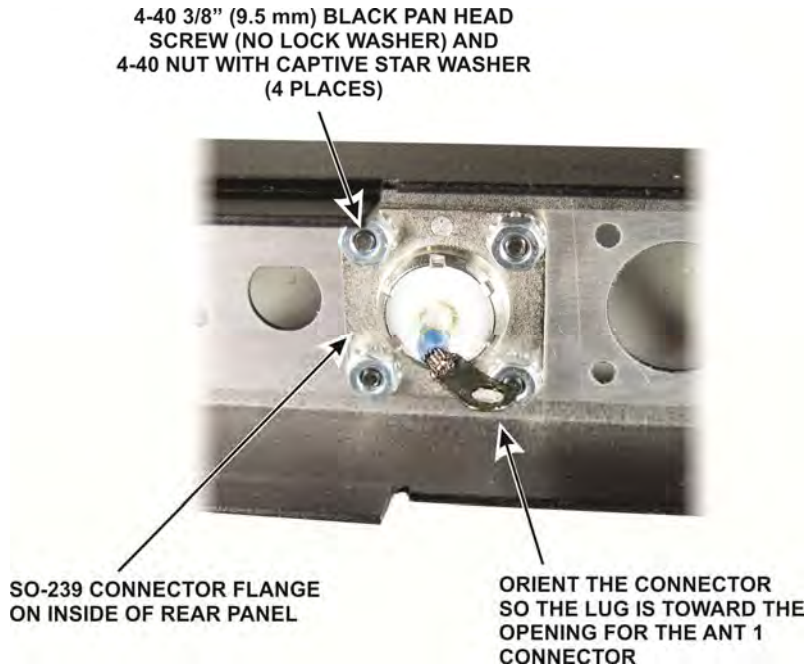

Figure 20. Installing the XMTR SO-239 Connector in the Rear Panel.
□ Install the XMTR SO-239 connector in the rear panel opening marked XMTR as shown in Figure 20. Take care not to bend the wire or move the solder lug. Place the flange of the connector inside the rear panel, and orient the connector so the lug on the wire points toward the ANT1 connector opening as shown.